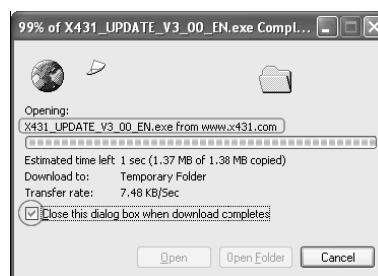

Figure 3-12
2. The following window shows the download progress (see figure 3-12).